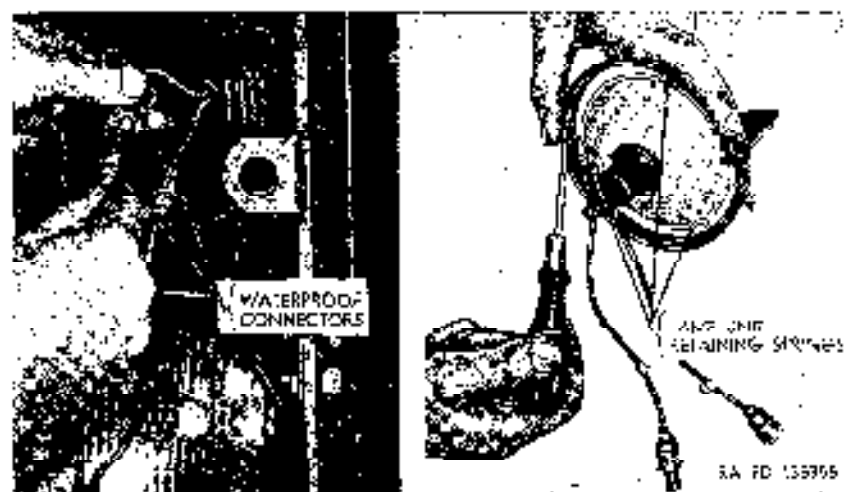

Figure 187. Reinstalling a lamp unit.
- (3) Disconnect waterproof connectors (fig. 187).
- (4) Remove three lamp-unit retaining springs (fig. 187) and remove lamp unit from door.
- (1) Position sealed-beam lamp unit in blackout-driving light door (cover) and secure with three retaining springs (fig. 187).
- (2) Connect lamp unit cables to wiring harness cables (fig. 187) and fasten cable connectors in connector clips (fig. 186).